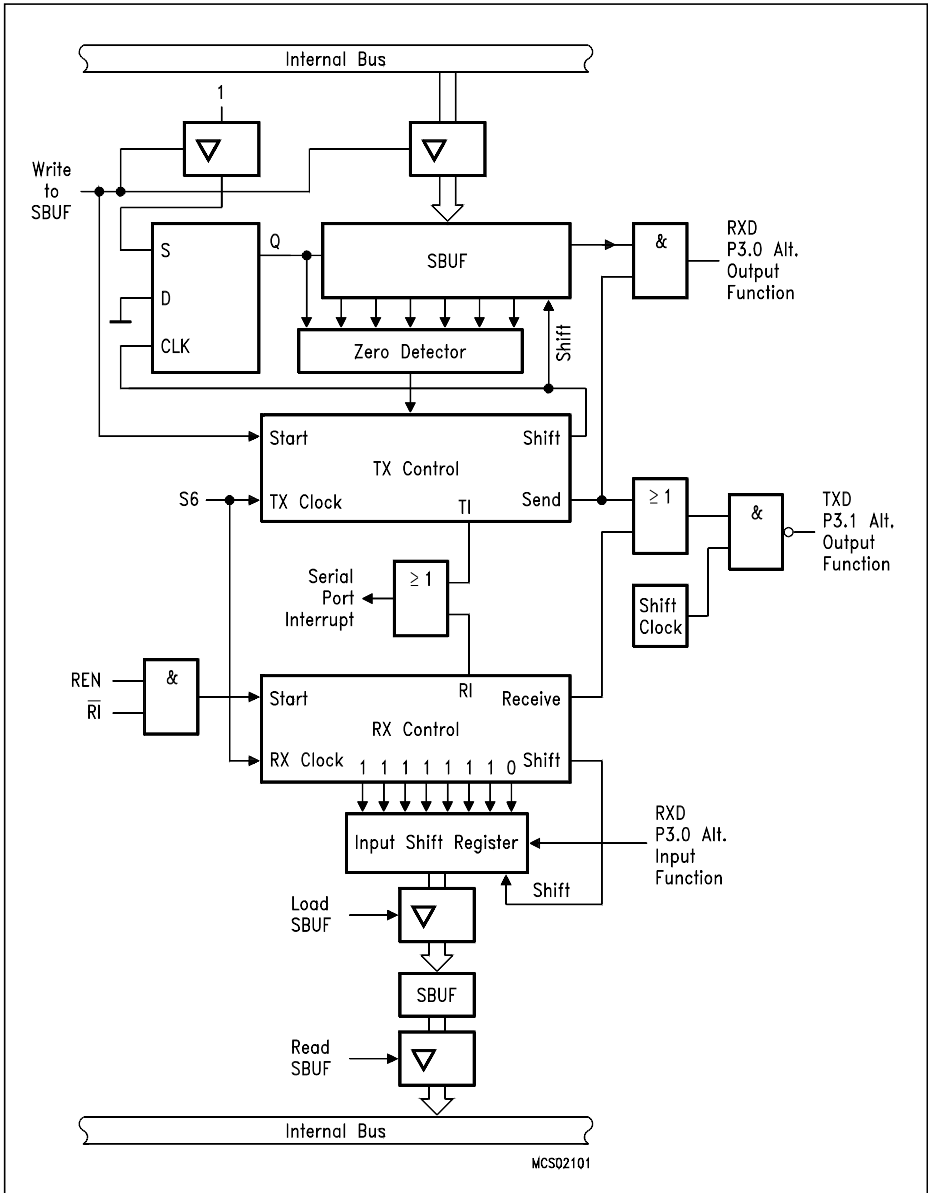
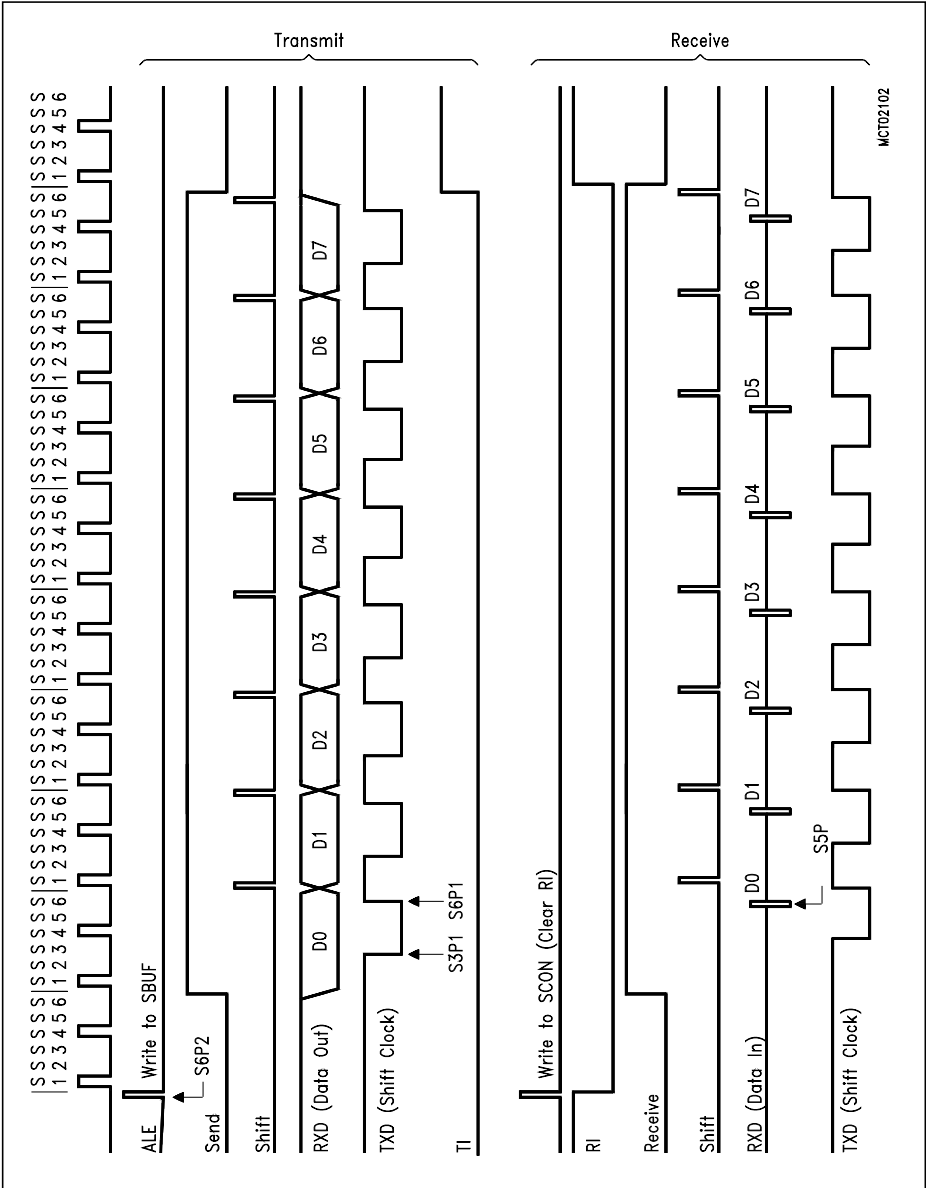

Figure 6-8a
Figure 6-8b
**Figure 6-8a** shows a simplified functional diagram of the serial port in mode 0. The associated timing is illustrated in **figure 6-8b**.